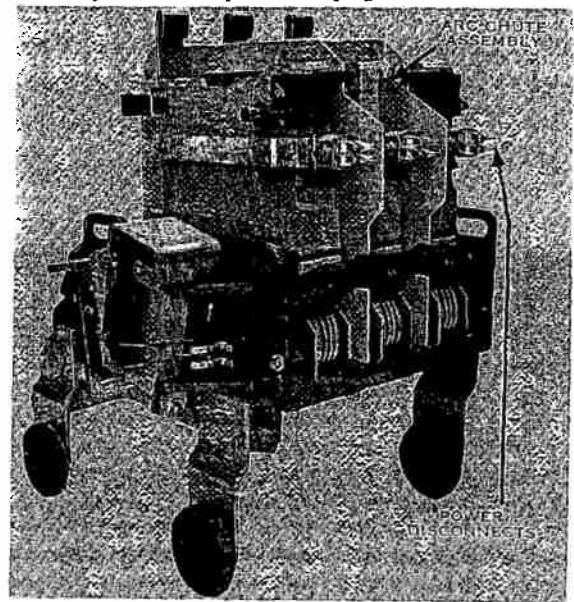

Fig. 3. IC2814E220 one-high contactor showing power-disconnect assembly in its closed position
With the exception of the IC2814E210, E211, E510, E511 and E411, power can be removed from the contactor by moving the power-disconnect fingers, located on the archute assembly, as shown in Fig. 3, out of engagement with the vertical bus. This is done by rotating the complete archute assembly or by moving the complete contactor.
Power disconnects (see Fig. 3) are provided so that contactors can be removed or installed in enclosures without having to disconnect or connect cables. Control disconnects are also provided for this same purpose.
6. With the power disconnect assembly in its closed position (see Fig. 3), operate the magnetic armature assembly by hand again to see that all parts operate freely and that moving parts do not rub on the arc chutes.